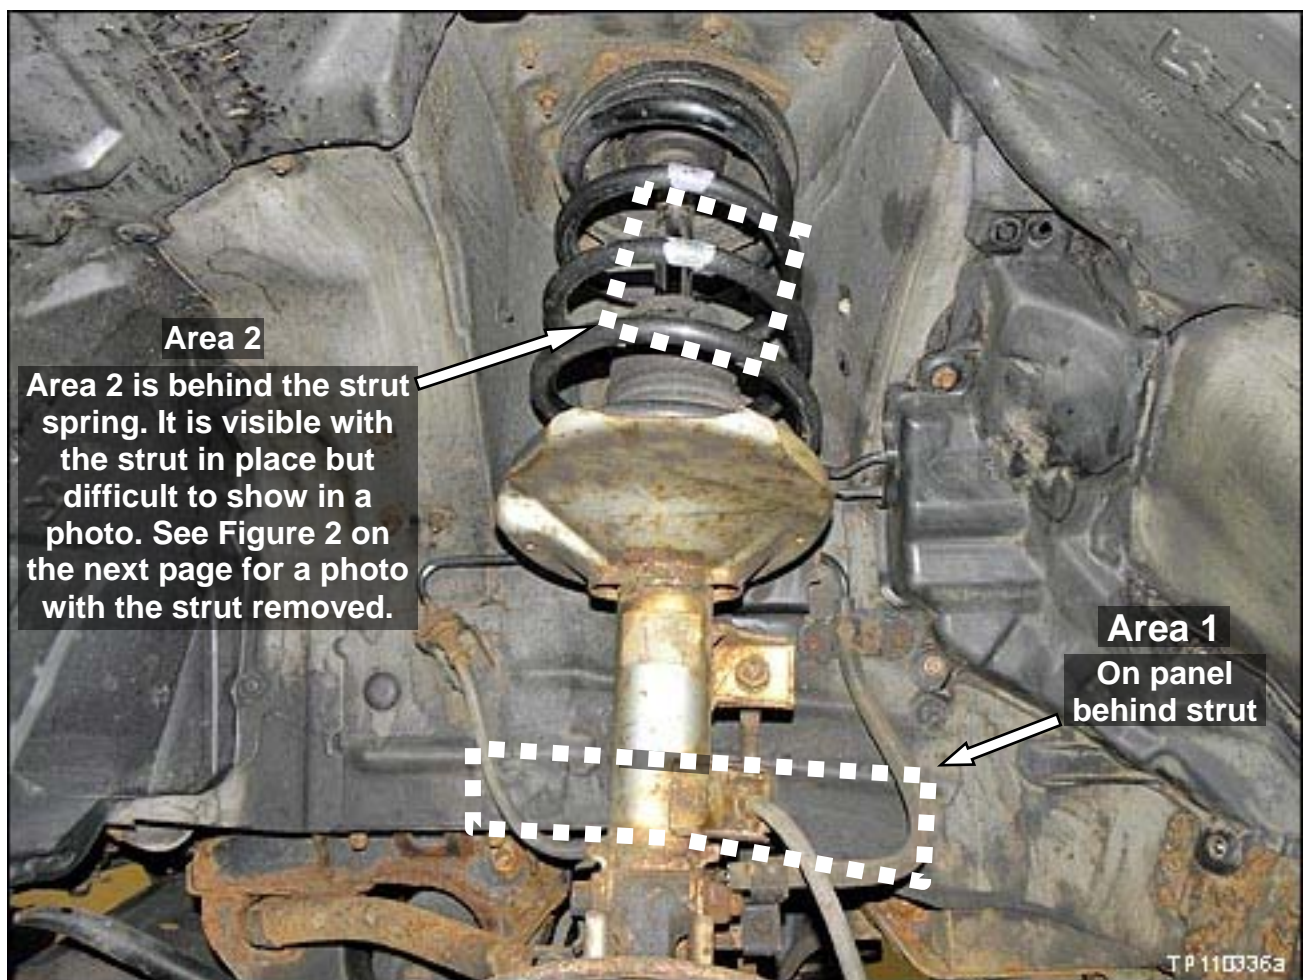

Figure 1
3. Inspect for corrosion on the driver side AND passenger side in the wheel house Area 1 and strut housing Area 2 (see Figures 1, 2, 3, and 4).